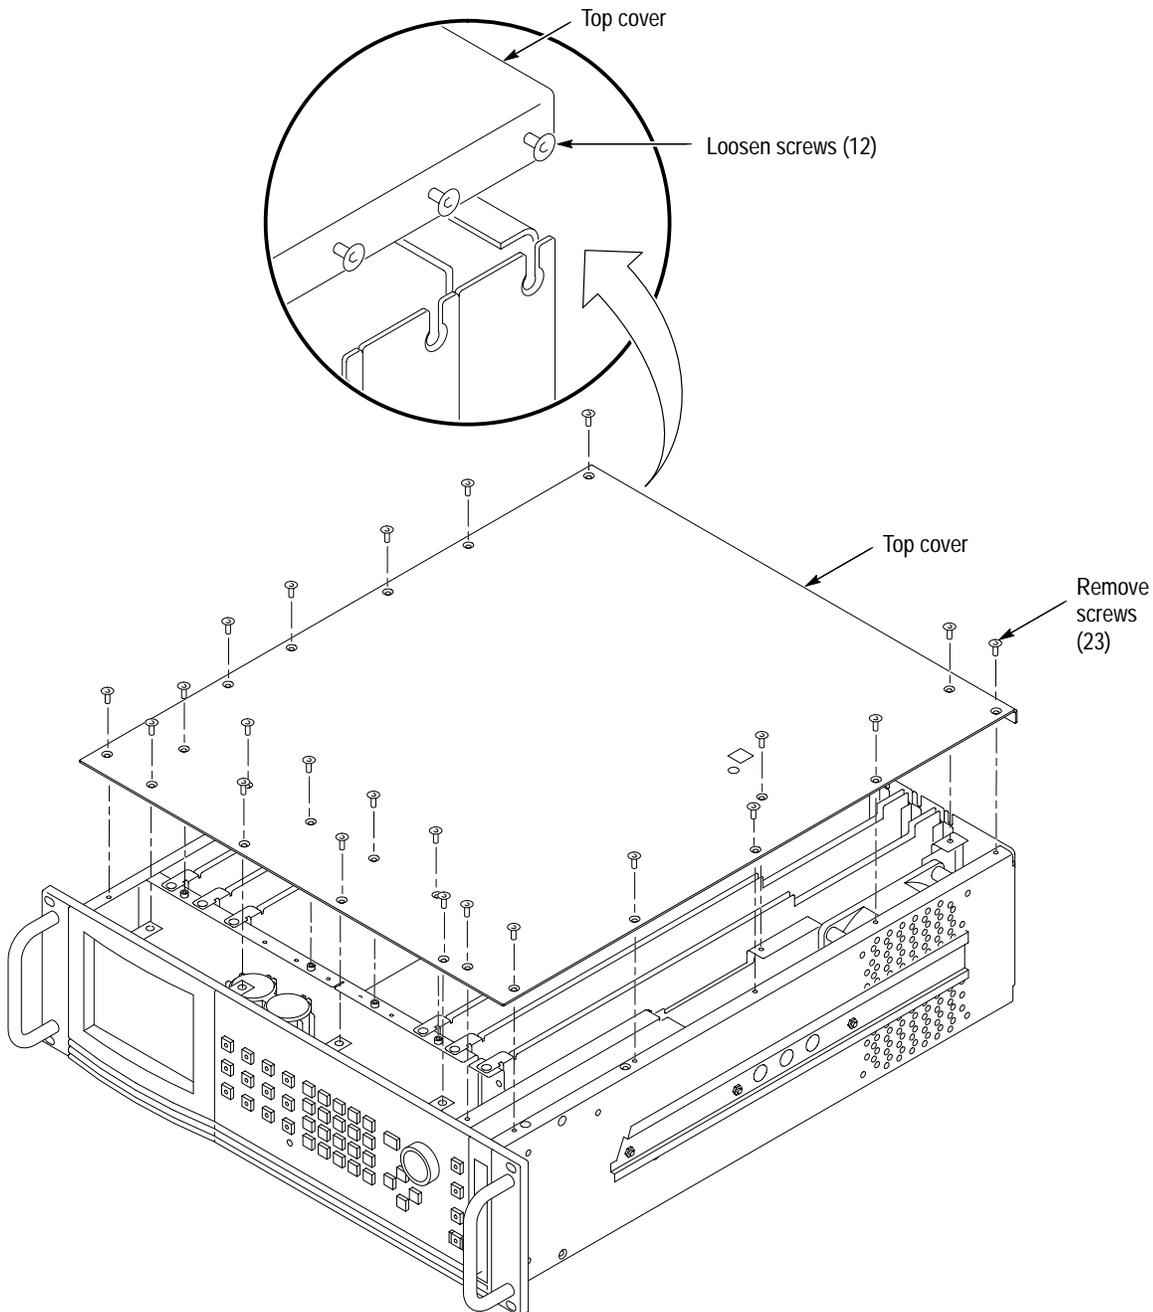

Figure 2-2: Top cover removal
4. Refer to Figure 2-2 and remove or loosen all screws to remove the top cover.